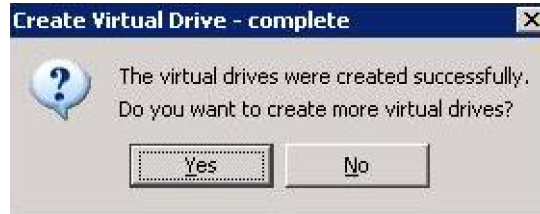

Figure 62. Option to Create Additional Virtual Drives
8. After the configuration is completed, a dialog box may or may not notify (depending on different utility version) you that the virtual drives were created successfully, as shown in Figure 62. If more drive capacity exists, the dialog box asks whether you want to create more virtual drives. If no more drive capacity exists, you are prompted to close the configuration session.